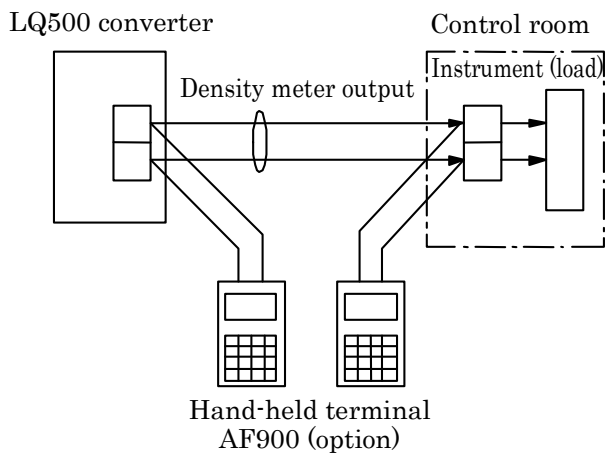

Figure 9. Wiring for communication function
- (1) Make sure the load resistance of 4-20mA dc line of output is between 240 and 750 ohm, and the load capacitance is 0.25 μ F maximum.
- (2) The AF900's cable lead can be connected to the LQ500 anywhere along the current output line. For example, the cable lead may be connected to the signal terminals on the receiving side in the control room. See Figure 9.